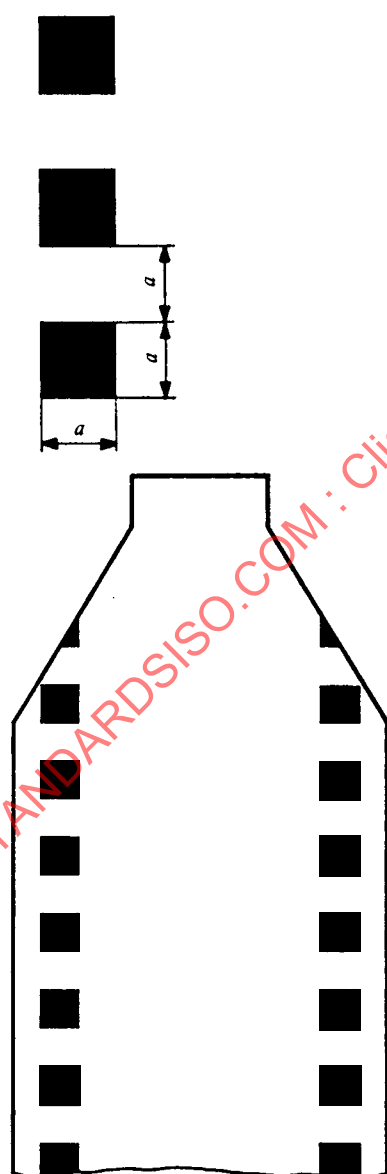

FIG. 1 – Colour negative roll film
The pattern for colour negative roll film should be as shown in Figure 1.
- 3.1 The dimensions of the identifying patterns should be in accordance with Figures 1 and 2.